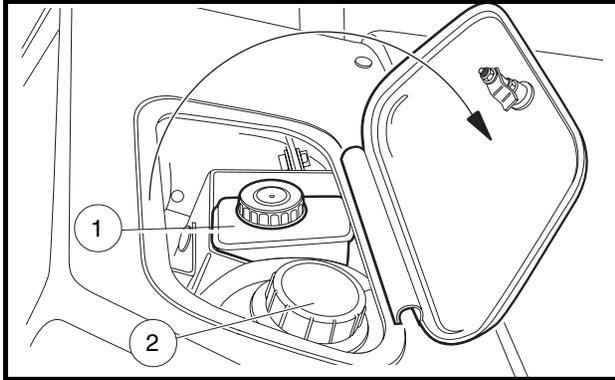

Figure 10-3 Brake Fluid and Coolant Access Door
The brake fluid reservoir (1) is located under the dashboard (Figure 10-3, Page 10-6). Raise the access panel located on top of the dashboard to check the brake fluid level.
The coolant reserve tank is located under the dashboard next to the brake fluid reservoir (**Figure 10-3, Page 10-6**). Raise the access panel located on top of the dashboard to check the coolant level before every operation.